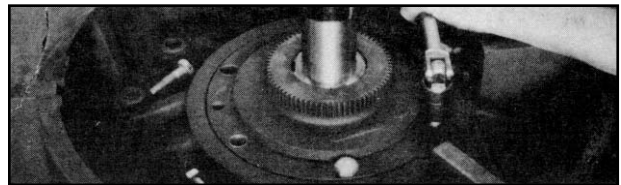

Figure 48
1. With the rotor upright, cut the seal wire and remove wire and screws from the assembly, Figure 48.